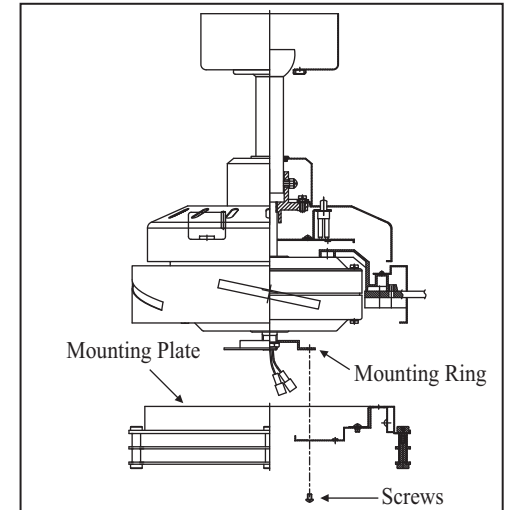

Figure 17
1. Install the mounting plate to the mounting ring with the 3 screws previously removed from the motor support plate. Be sure to tighten all screws. (Fig. 17)